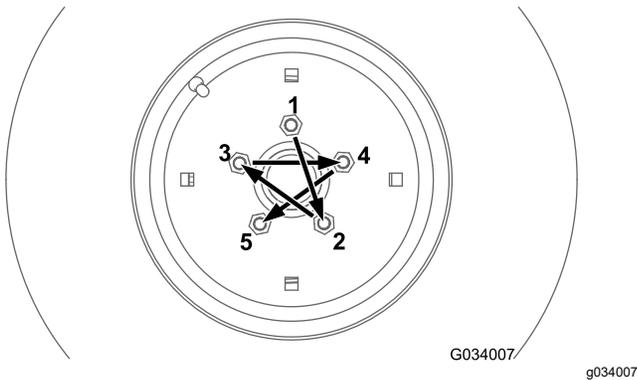
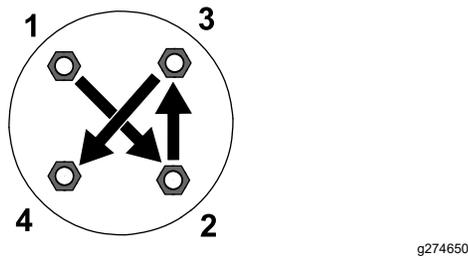

Figure 70
Figure 71
Torque the lug nuts at the front and rear wheels (4-wheel-drive machines only) in the pattern as shown in Figure 70 and Figure 71 to the specified torque.
- Front wheels: refer to Figure 70
- Rear wheels (4-wheel-drive machines only): refer to Figure 71